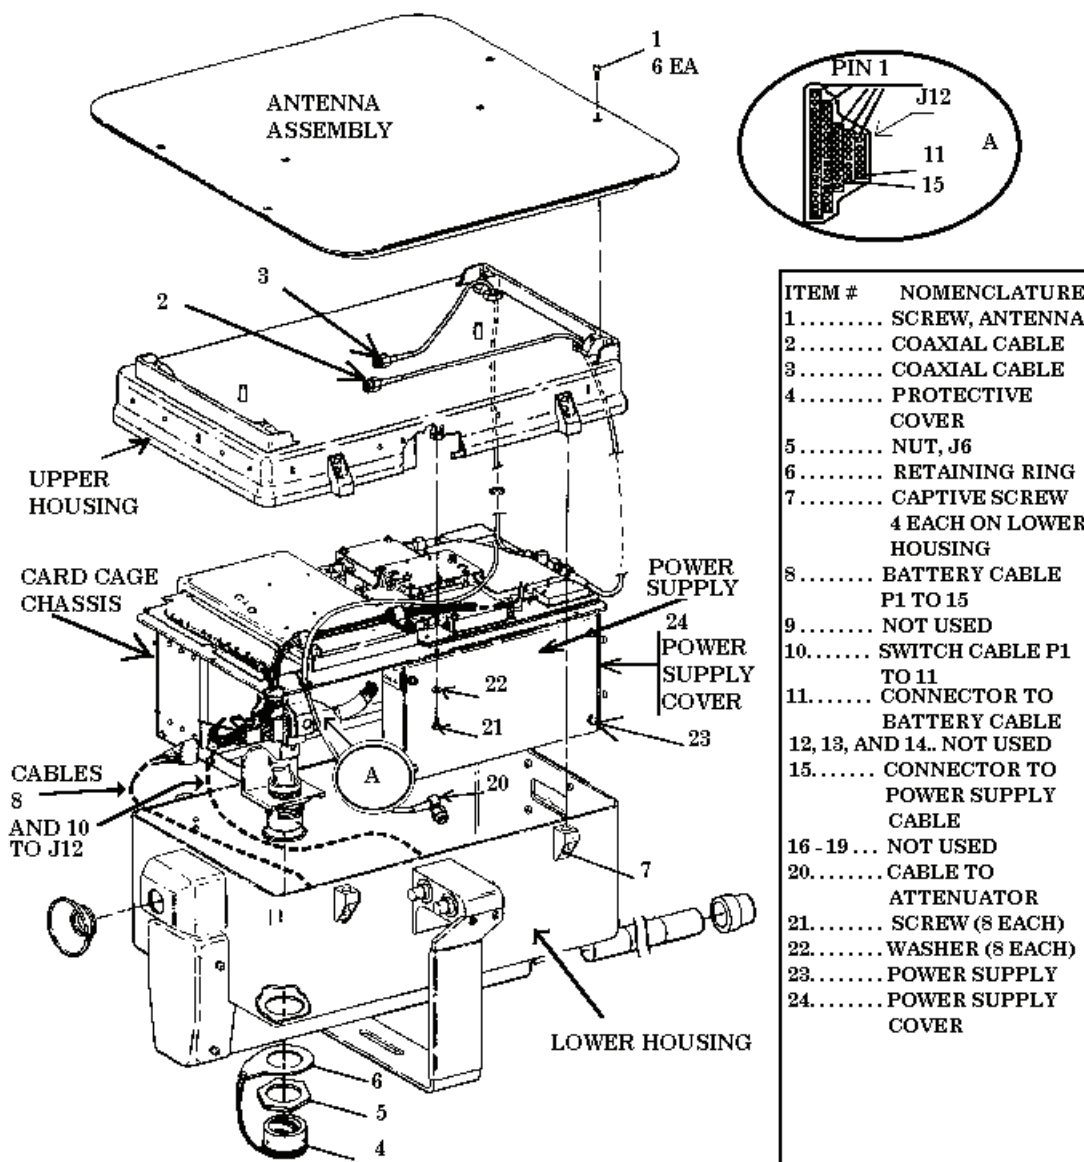

Figure 4. Disassembly blowout.
Disassembly instructions and items in parenthesis below are used in conjunction with test set disassembly blowout (fig. 4).
- (1) Remove six screws (1) (fig. 4).
- (2) Gently lift antenna and disconnect cables (2) and (3) (fig. 4).
- (1) Turn TI upside down and remove PROTECTIVE COVER (4), NUT (5), and RETAINING RING (6) (fig. 4).
- (2) Loosen four SCREWS (7) (fig. 4) and gently lift and place lower housing beside TI with handle side down.
- (3) Disconnect SWITCH CABLE P1 (10) (fig. 4) from CONNECTOR (11) (fig. 4, inset A).
Look at CONNECTOR 11 (fig. 4, inset A) and P1 cable end. Notice the arrangement of pins and guide pins for future reconnections.
- (4) Disconnect battery cable P1 (8) (fig. 4) from CONNECTOR J12 (15) (fig. 4, inset A).
- (5) Disconnect CABLE 20 (fig. 4) from attenuator on lower housing.
- (6) Remove lower housing away from card cage chassis and lower housing.
- (1) Place upper housing on bench so that card cage chassis lip is exposed.
- (2) Remove eight SCREWS (21) and WASHERS (22) (fig. 4) located on lip of card cage chassis.
Use extreme care when lifting upper housing away from card cage chassis to avoid damage to COAXIAL CABLES (2) and (3) (fig. 4).
- (3) Turn TI on right side and separate card cage chassis and upper housing.
Slide CABLES (2) and (3) (fig. 4) part way through seals while applying a slight pressure.
Excess bending of CABLES (2) and (3) (fig. 4) may cause damage to cables and cause test set malfunction.
(4) Disconnect CABLES (2) and (3) (fig. 4) from card cage chassis connectors when sufficient clearance is made.
(5) Remove upper housing from card cage chassis.
k. Install SMA male to female right angle connectors to COAXIAL CABLES (2) and (3) (fig. 4) card cage chassis connectors.
Card cage chassis connector coaxial cables (2) (fig. 4) will be referred to as **DIFF** and (3) (fig. 4) will be referred to as **SUM** through the rest of this procedure.
n. Connect one end of power supply extender cable (part of transponder test set kit) to lower housing P1 CABLE (8) (fig. 4) (this cable was disconnected in **g** (4) above) and the other end of power supply extender cable to CONNECTOR (11) (fig. 4).
o. Arrange lower housing for best connection of P1 CABLE (10) (fig. 4) to CONNECTOR J12 (15) (fig. 4, inset A) and reconnect CABLE (20) (fig. 4) to attenuator on lower housing.